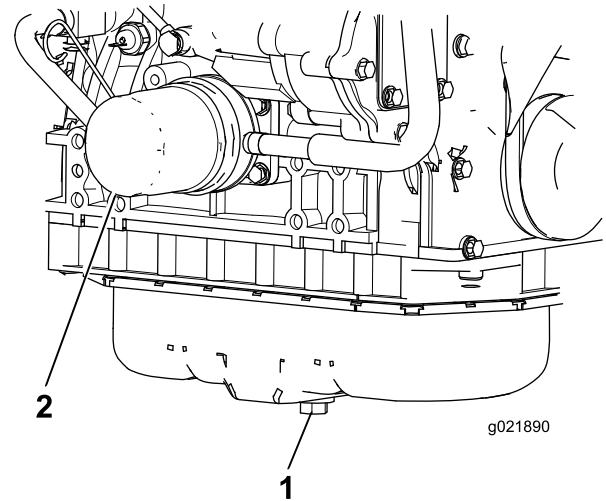

Figure 75
1. Remove the drain plug and let the oil flow into a drain pan (Figure 75).
3. Remove the oil filter (Figure 75).